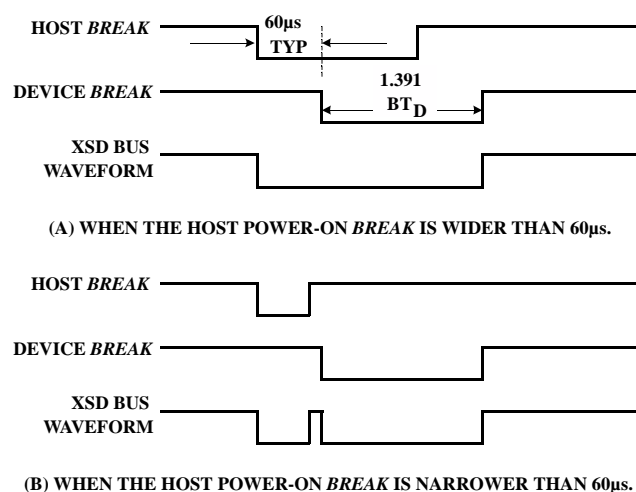

FIGURE 4. POWER-ON BREAK SIGNAL TO WAKE-UP THE ISL9206 FROM SLEEP MODE
Note that the ISL9206 will initiate the power-on sequence without waiting for the power-on 'break' signal to return to the high state. If the host sends an initial 'break' pulse wider than 60µs, the device-ready 'break' returned by the ISL9206 will likely be merged with the pulse sent by the host and, therefore, may not be detectable. Figure 4 illustrates the waveforms during the Power-on Reset. Figure 4 (A) represents the case when the power-on 'break' rising edge occurs after the device starts sending the 'break'. Figure 4 (B) represents the case when the power-on 'break' finishes before the device sends its 'break'. The device break signal is always 1.391 times of the device bit-time (BT, see XSD Bus Interface section for more details). Either case in Figure 4 will wake up the device successfully if the device is in the sleep mode.